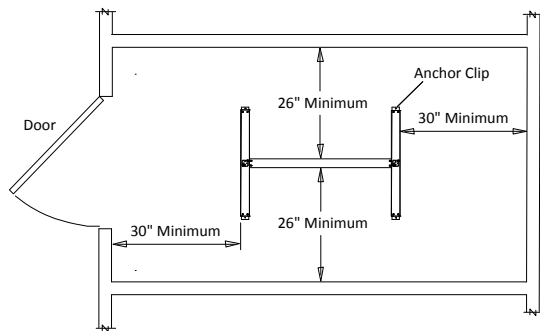

Figure 2
- Place base on floor in desired location and position according to minimum clearances shown in Figure 2.